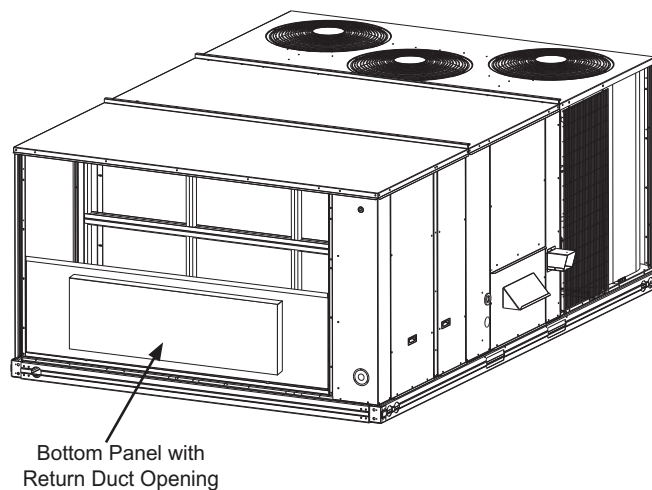

Fig. 22 — Install Bottom Panel w/ Horizontal Duct Opening
9. Install the (provided) bottom panel with the horizontal return duct opening on the unit. (See Fig. 22.) Screw panel in place.